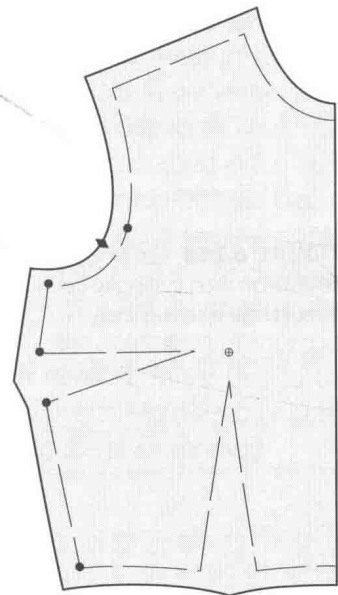
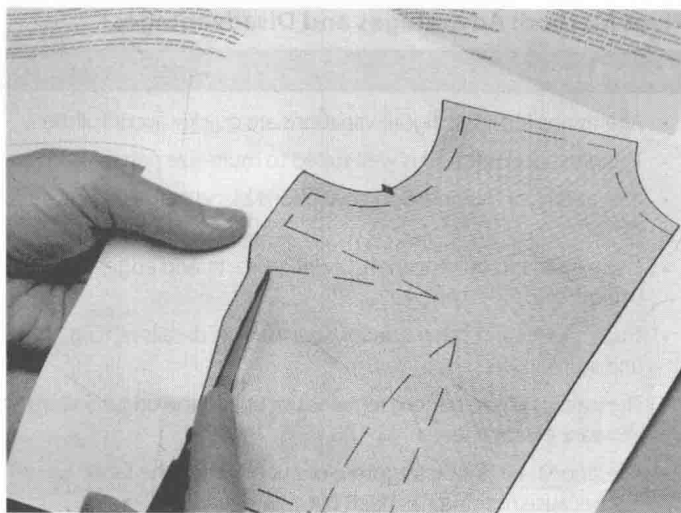

FIGURE 6.26a Establish pivot points on the pattern stitching line to alter for the larger bust.
FIGURE 6.27 Use half-scale patterns to practice cutting seam allowances free just inside the stitching line.
2. Establish end or pivot points on the pattern stitching line as necessary (see Figure 6.26a):
Exercise: To develop your own alteration skill with the seam method, use the bodice illustrated in Figure 6.26a–d, for example, and practice the pattern alteration procedures on a half-scale pattern. Assume a $\frac{3}{8}$ inch amount of change for half-scale practice (see Figures 6.27 and 6.28).